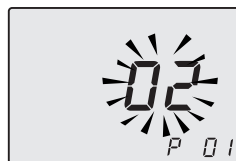
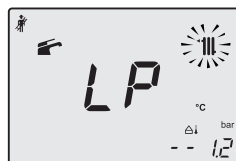
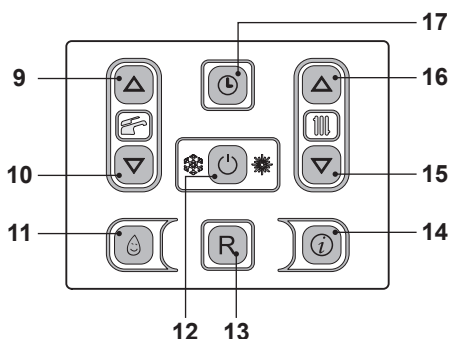
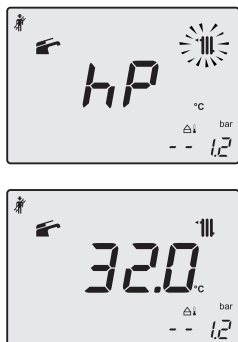

Fig. 9.20
Fig. 9.21
Fig. 9.19
Fig. 9.22
- Enter in "programming mode" by pressing keys 12 - 15 - 16 (Fig. 9.19) for 10 seconds at the same time until the letters **P01** are displayed on the LCD display, indicating that "parameter 01" (Fig. 9.20) has been activated.
- Press keys 15 and 16 (Fig. 9.19) at the same time until the LCD display displays the letters **LP** that alternate with the heating water temperature value (e.g.45), indicating the activation of the "chimney sweep function" at minimum output (Fig. 9.21).
- By pressing 16 (Fig. 9.19) it is possible to change power in chimney sweep mode: with the letters **hP** on the LCD display which alternate between the heated water temperature (i.e.32), we are in the "chimney sweep function" at the minimum power during heating (Fig. 9.22).
- Press keys 12 - 15 - 16 (Fig. 9.19) at the same time again to exit the "chimney sweep mode" and return to the previously set boiler status (Fig. 9.25).